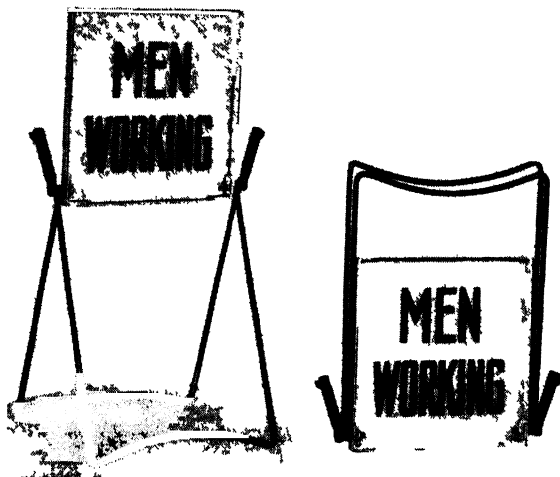

FIG 33-1 Traffic danger sign
**Guarding.** In congested districts ground hands should be assigned to the street and highway at pole locations where work is being carried on. It should be the duty of these ground hands to warn street and highway traffic of the danger. In addition, danger signs may be used near the bases of all the poles in question and the ground space may be roped off (Figs. 33-1 and 33-2).